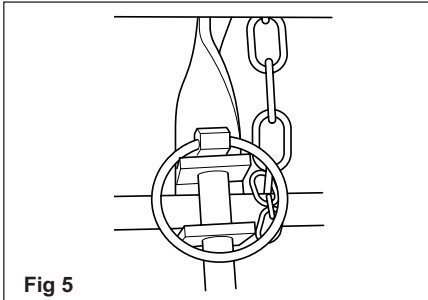

Fig 5
- Move the circular clips either side of the wheel shown in Fig 5 towards you when you are positioned at the rear of the vehicle.